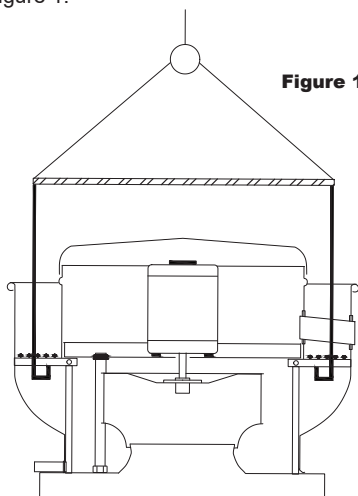

Figure 1
Lift Direct Drive unit on to the roof utilizing hooks under the horizontal supports. Evenly space the hooks using a minimum of four lifting straps. Use a spreader bar to ensure the straps do not come in contact with the unit, see Figure 1.
4. On direct drive fans, lift and place the unit on top of roof curb using hooks under the horizontal supports. Refer to Figure 1, page 10.